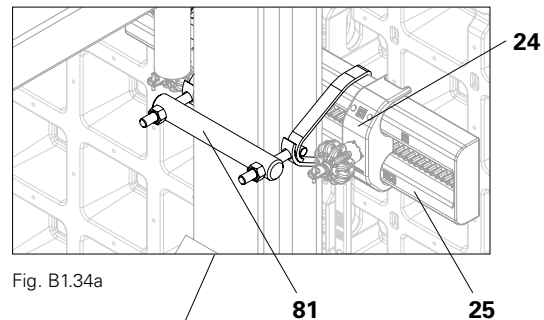

Fig. B1.34a
3. Attach the DUO SB hook strap (**81**) to the DUO 62 compensation waler (**25**). Ensure that the DUO SB hook strap (**81**) is correctly positioned. (Fig. B1.34a + B1.35)